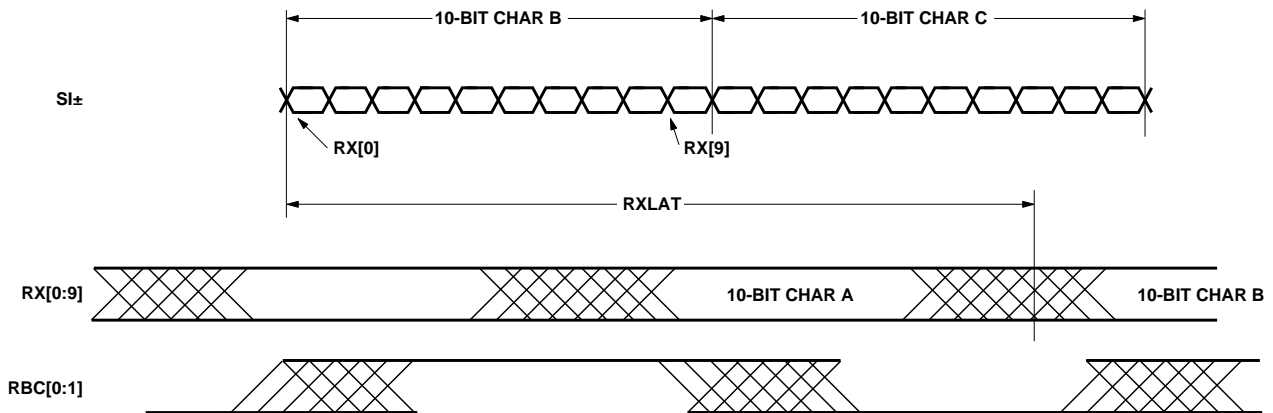

Figure 6. Receiver latency. First bit on  $SI_{\pm}$  drives  $RX[0]$ .
3. The receiver latency, as shown in Figure 6, is defined as the time between the leading edge of the first received serial bit of a parallel data word and the leading edge of the corresponding parallel output word.